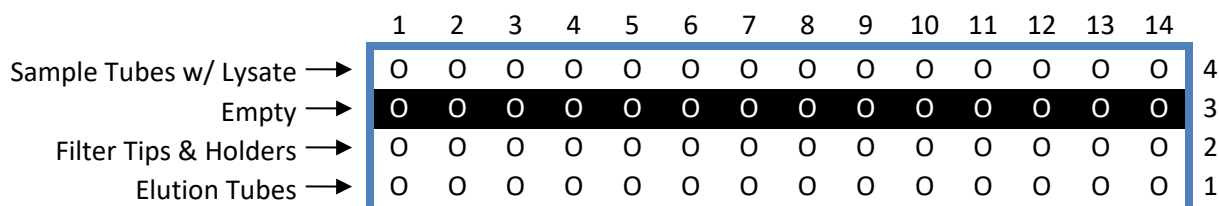

Figure 1 - Loading the EZ1® Advanced XL
3.	Ensure consumables, lysate tubes, and barcoded elution tubes are properly loaded onto the EZ1. See Figure 1.